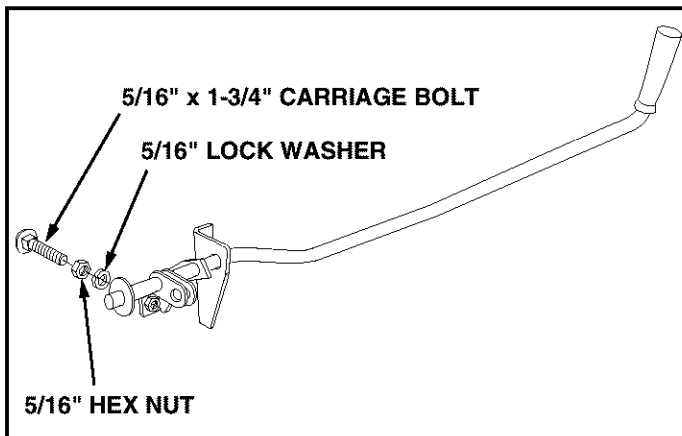

FIGURE 1
- (1) 15/16" Wrenches or Adjustable Wrenches
- Assemble the 5/16" hex nut and then the 5/16" lock washer onto the 5/16" x 1-3/4" carriage bolt. Screw the bolt into the nut welded to the stop bracket on the handle. The bolt is a depth adjustment for attached implements. See figure 1.